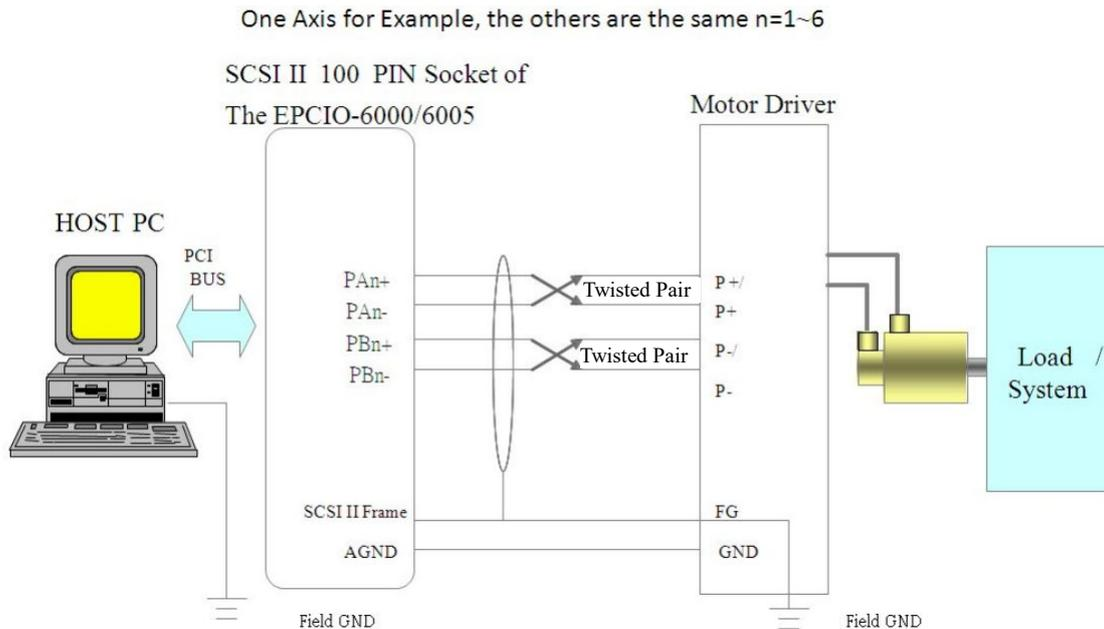

Figure 3-2.1
**3.2.1 Hardware wiring (refer to Section 3.1 Basic Installation and the following description). Taking EPCIO-6000/6005 for example, the following diagram (Figure 3-2.1) shows how EPCIO-6000/6005 is connected to a pulse-command servo motor/stepper motor system.**